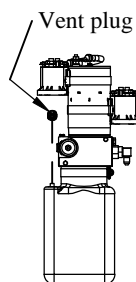

Figure 12: Vent plug.
5. **Remove** the vent plug from the pump reservoir (Figure 12).